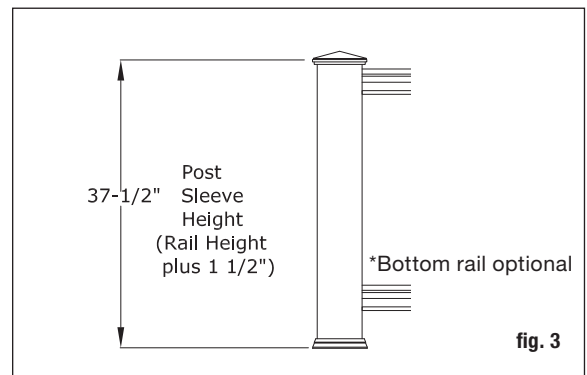

fig. 3
**Step 5:** Trim 4x4 post sleeves to length if you plan to use a post cap. Post sleeves should be a minimum of 1-1/2" longer than the railing height (fig. 3). Example: For a 36" railing, trim post sleeves to a minimum of 37-1/2", or longer if desired. Slide a trimmed post sleeve over each 4x4 railing post. Use shims as needed to create a snug fit. Slide a post base trim over each post sleeve.